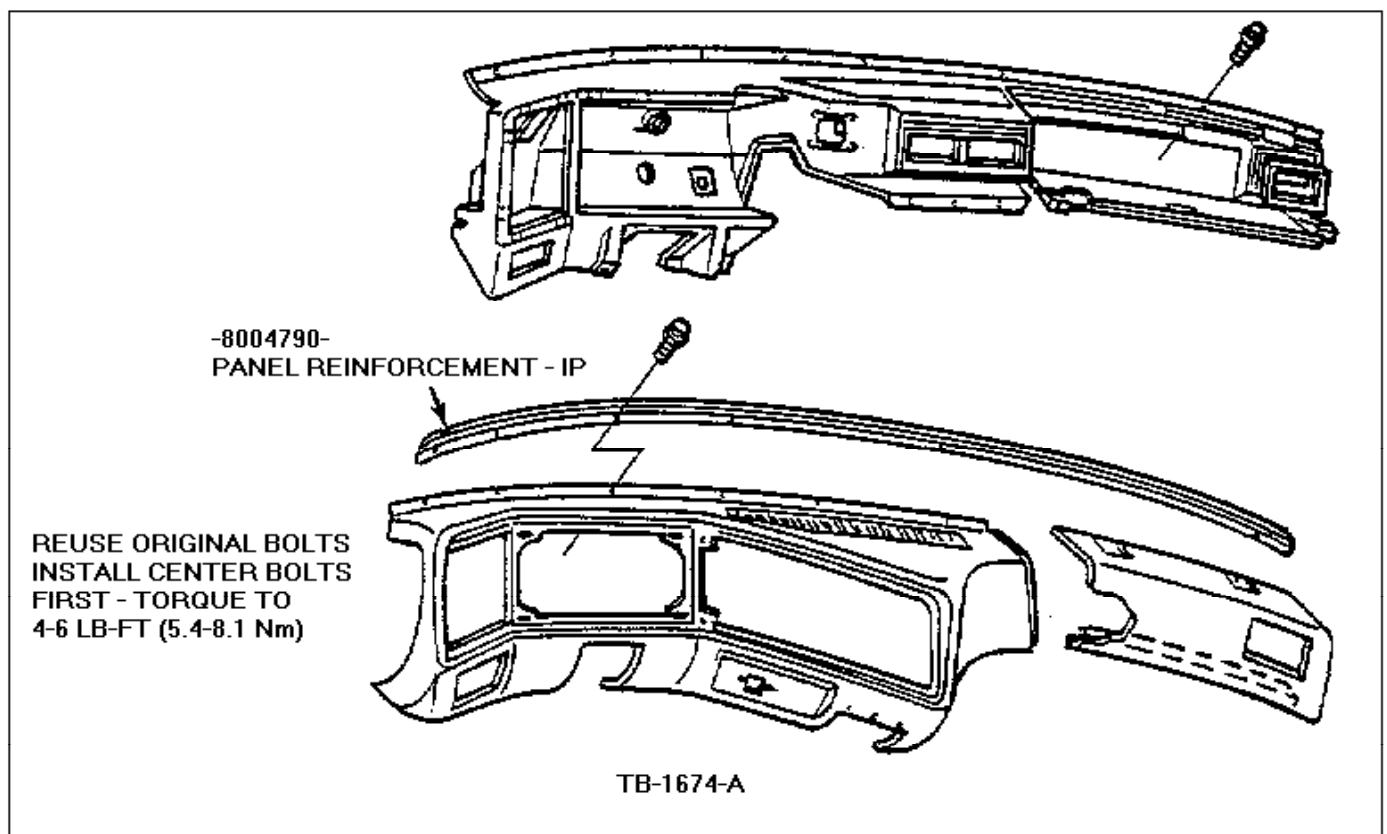

Figure 1 - Article 90-26-13
2. Lay the reinforcement strip on top of the instrument panel as shown in Figure 1.